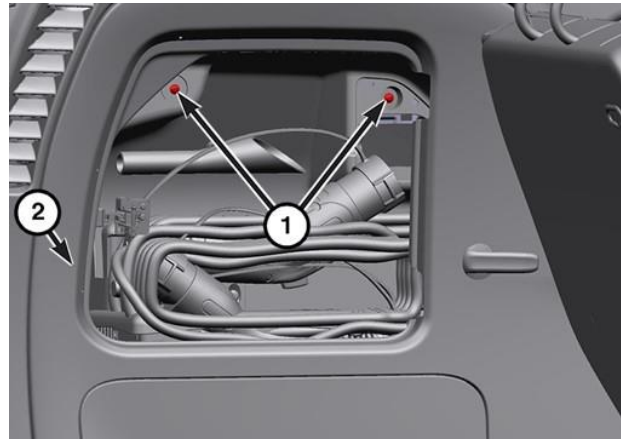

Figure 41 – Quarter Panel Insert
50. Remove the fasteners (1) from the quarter panel trim (2) (Figure 41).
66. Install the fasteners (1) for the quarter panel trim (2) and tighten them securely (Figure 41).